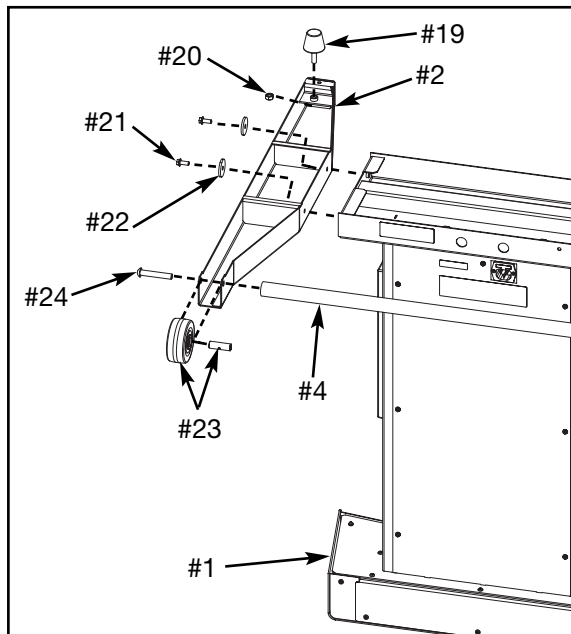

Figure 3
- C. Carefully turn the cabinet (#1) over and position the top cover on the piece of cardboard or carpeted surface. See Figure 3.
- A. Locate the left foot (#2), two screws 1/4-20 X .625 (#21) and two washers (#22). See Figure 3.
- A. Locate the pivot bar (#4), transport wheel (#23) and bolt 3/8 X 2.25 (#24). See Figure 3.